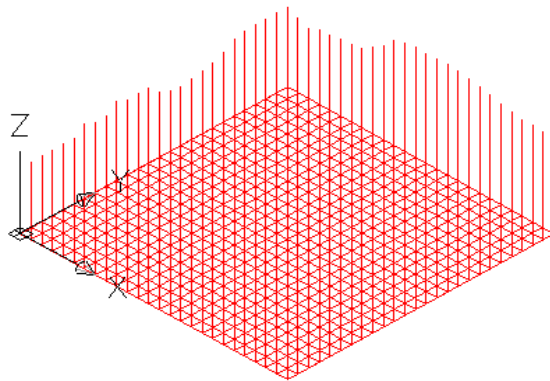

Figure Step 4
Step 4 Change the current view to SE Isometric. (Figure Step 4)